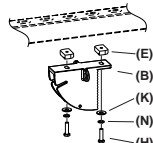

Figure 3
Measure the distance from the foot to the bottom rung of your ladder. Using this measurement, mark your strut accordingly measuring from the back. This will be the approximate location of the fixed mount. Secure the fixed mount (B) with the grooves facing the front of the vehicle using the associated hardware. (See Figure 3) Use one strut channel nut (E), one 0.75" O.D. washer (K), one lock washer (N) and one hex head screw (H) per hole.